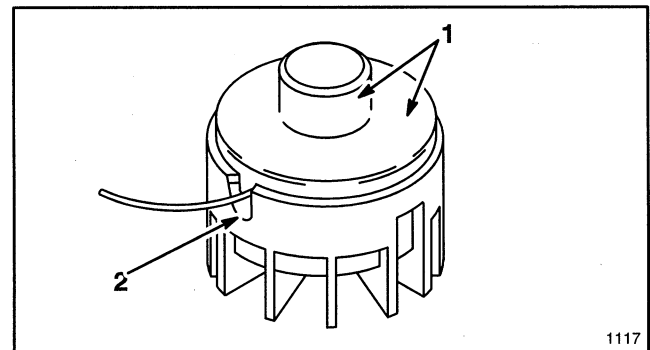

Figure 21
6. Insert line into metal eyelet in cutter head (Fig. 21) and hold line with one hand while using your other hand to place spool and cap on spring. Align cap tabs with slots in cutter head, press in tabs and push down cap and spool to lock cap in place (Fig. 21).